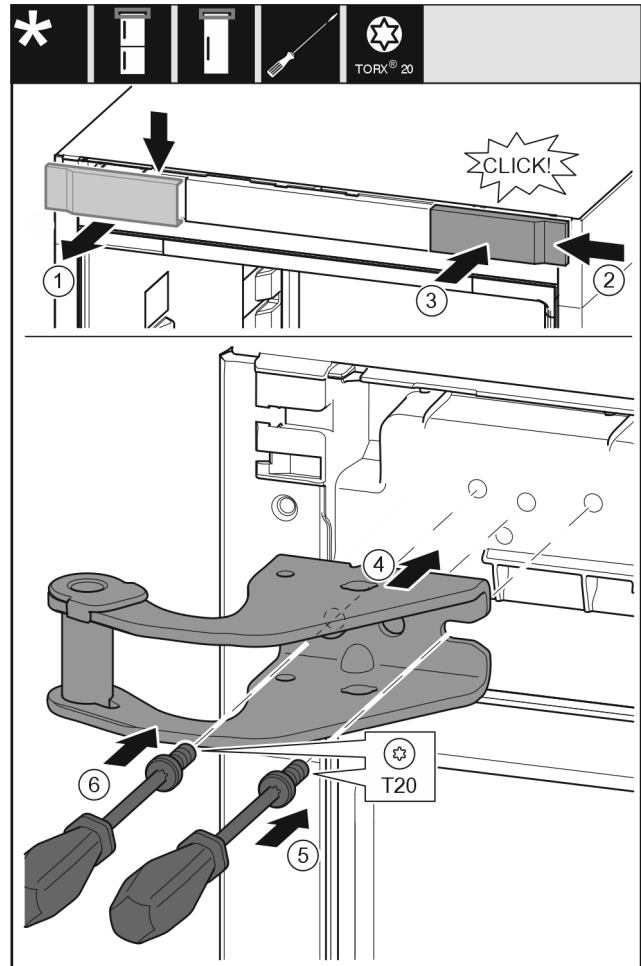

Fig. 13
- Take off the cover from above to the front. Fig. 13 (1)
- Rotate the cover 180° and clip onto the other side from the right. Fig. 13 (2)
- Latch the cover into place. Fig. 13 (3)
- Position the upper bearing bracket. Fig. 13 (4)
- Insert the screw with a T20 screwdriver and tighten it. Fig. 13 (5)
- Insert the screw with a T20 screwdriver and tighten it. Fig. 13 (6)